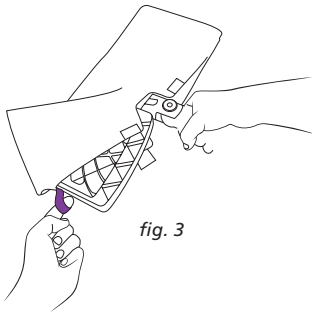

fig. 3
- 3 Use the loop on the side of the cleaning pad to slide the mop head into the pad pocket. Then secure the quick fasteners on the top of the pocket to lock in place. **(fig. 3)**